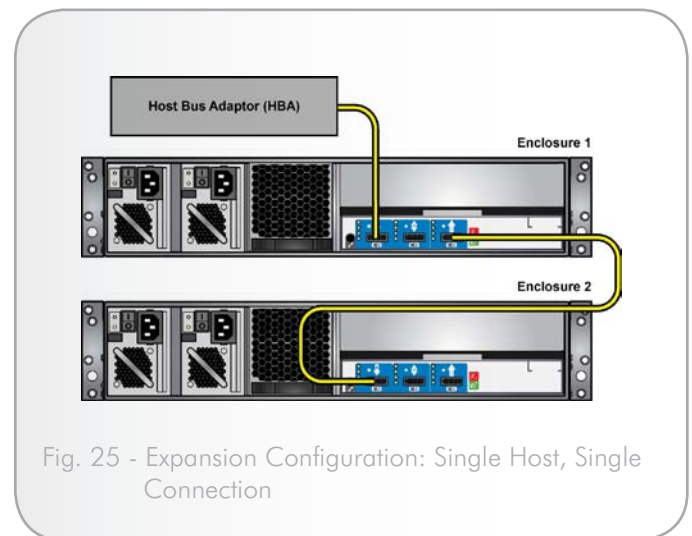

Fig. 25 - Expansion Configuration: Single Host, Single Connection
- ◆ Single Host, Single Connection, shown in Fig. 25